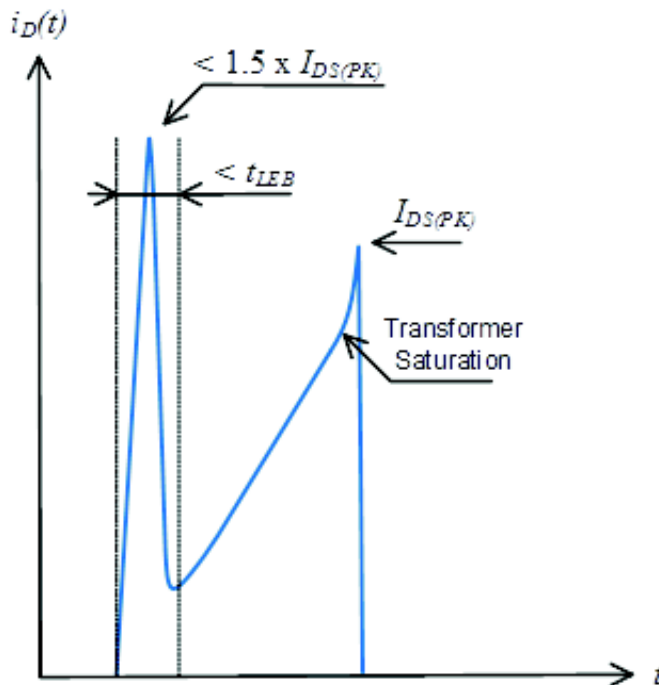

Figure 4. Spike Limits
- Maximum drain current IDS(PK) is obtained when the transformer saturates. It should not be mixed with short pulses that can be seen at turn on. Figure 4 below provides spike limits the device can tolerate.